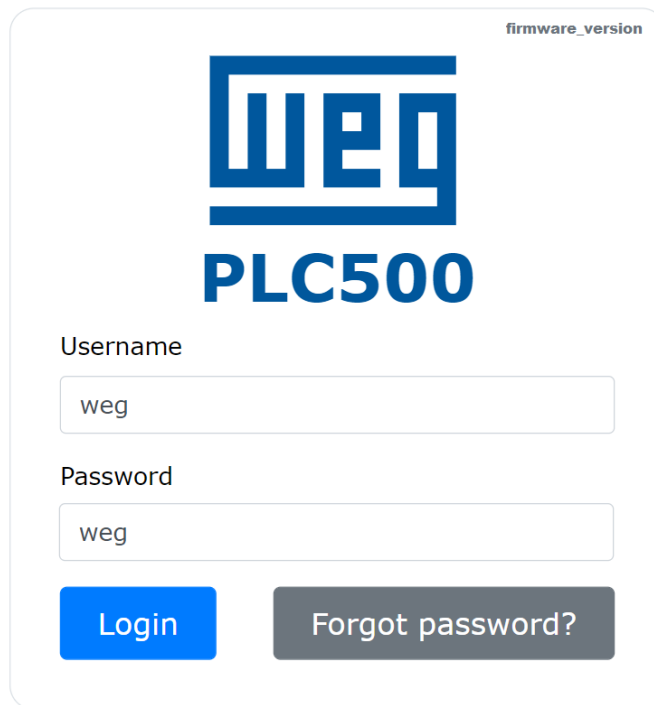

Figure 15.1: PLC500 Webpage
- 3) Open a web browser and enter the corresponding connection IP. The webpage will open, as shown in Figure 15.1 on page 15-1, and it will display the product login screen. In the first login, use "weg" for Username and Password.